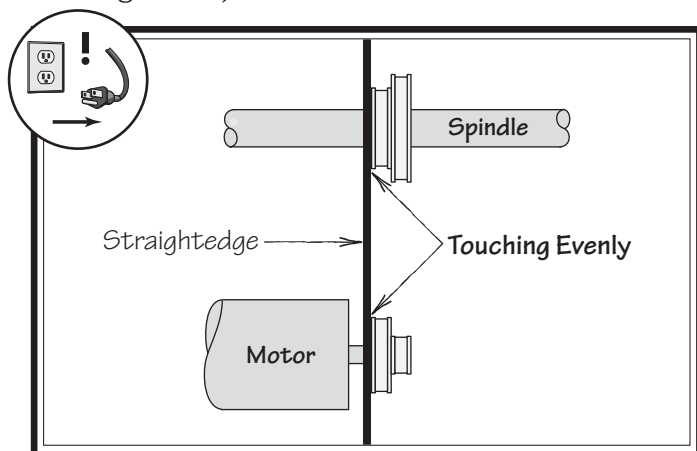

Figure 56. Example of V-belt pulleys aligned.
3. Place a straightedge against both pulleys and check to make sure they are aligned (see Figure 56).